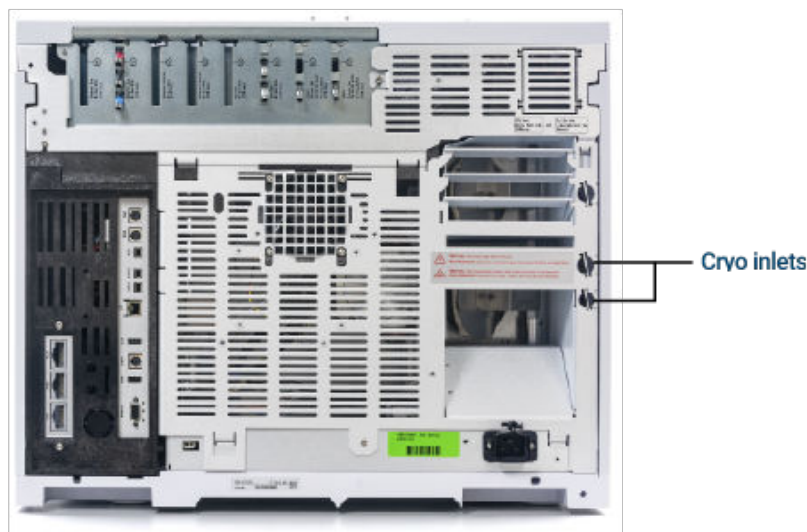

Figure 16. LN2 cryogenic cooling valve connections
2. Locate the inlet for liquid N2 on the rear of the GC. Prepare enough tubing to reach from the supply tank to this outlet. See **Figure 16**.